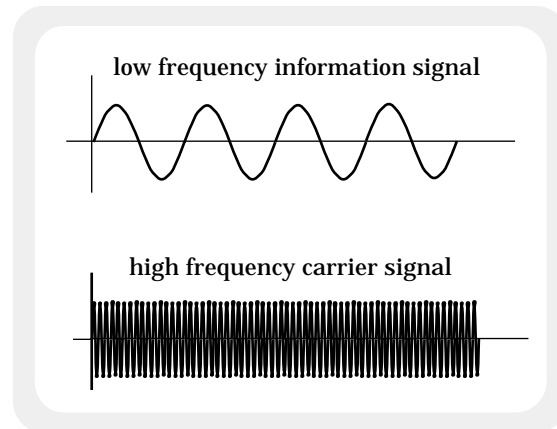

FIGURE 21.13a
a.) Let's assume we have a radio station that wants to send out middle C over the airwaves (middle C is a 256 hertz sine wave). The station has a single, high-frequency signal--say 1,000,000 cycles per second--to work with (Figure 21.13a shows both waves).
i.) As has already been pointed out, Figure 21.13a shows both the low frequency information signal (the 256 hertz middle C sine wave) and the station's high-frequency carrier wave;